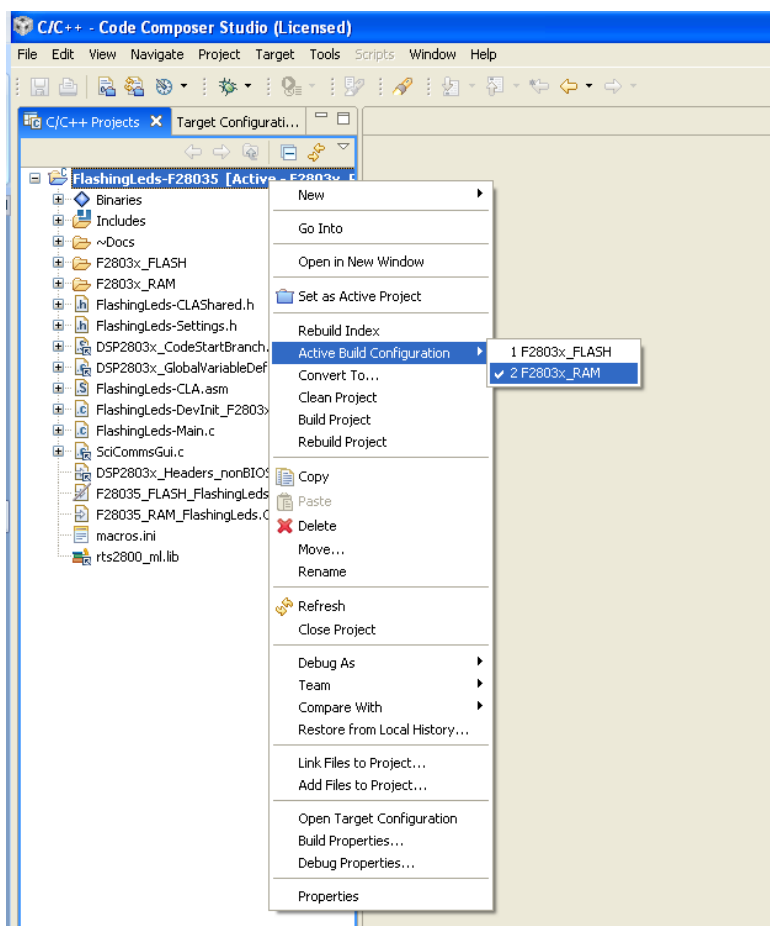

**Figure 4: Adding a Project to your Workspace**
- 10) Each project can be configured to create code and run in either flash or RAM. You may select either of the two, however for lab experiments we will use RAM configuration to simplify the debug process and then move to the FLASH configuration for production. As shown in Figure 4, right-click on an individual project and select Active Build Configuration-> F28xxx\_RAM configuration.